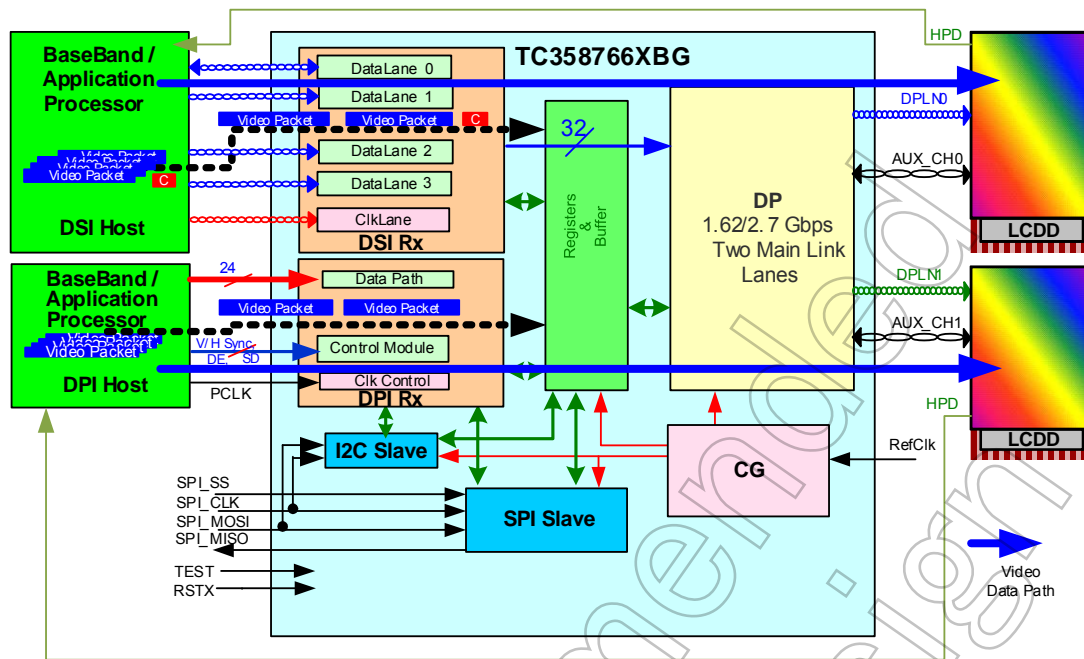

Figure 1.5 System Overview with TC358766XBG in MODE_SP22 Configuration
- **Mode_SP22:** In this mode, the DisplayPort™ Tx Main links are used as two independent links (each one lane) as shown in Figure 1.5. One DisplayPort™ Tx Main link lane is used to receive the video stream from the DSI Rx port, while the second DisplayPort™ Tx Main link lane is used to receive the video stream from the DPI Rx port. In this configuration, the TC358766XBG can support displays with resolution up to WXGA+, WSXGA (1440x900) at 24bit, 60 fps or WSXGA+ (1680x1050) at 18bit, 60 fps.